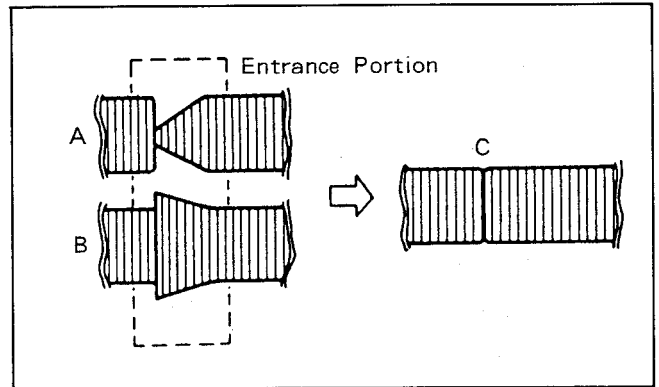

Fig. M8
3. If the RF envelope appears like example "A" or "B" in Fig.M8 then adjustment of the tape guide post (P2:Entrance) is necessary.
4. Adjust the tape guide post (P2) with the post adjustment screwdriver so that the RF envelope waveform at the entrance portion becomes flat as shown in Fig.M8-"C".